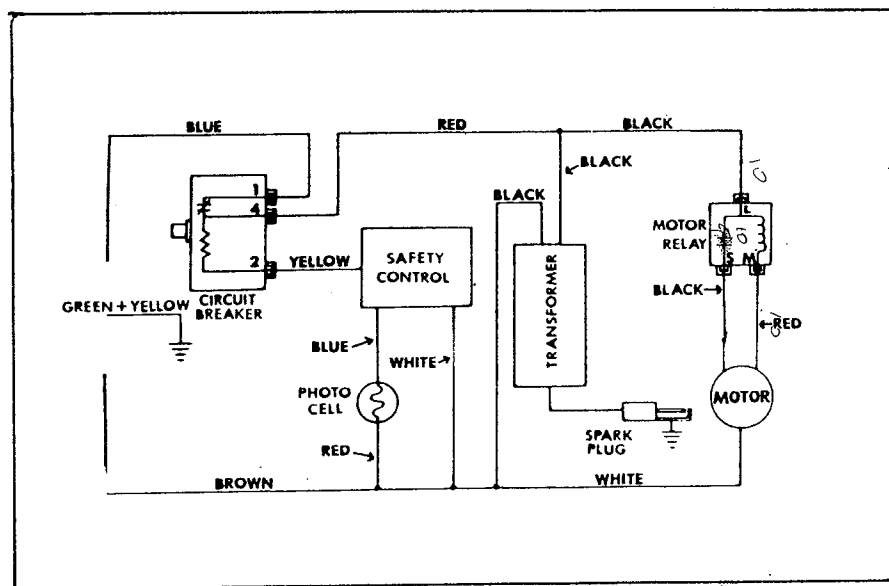

Figure 9. Wiring Diagram
5. Remove shell and disconnect jumper wire from photocell connections. Reinstall wire nuts to electrical leads (see figure 9). Install upper shell, then remove the gage and replace the plug.